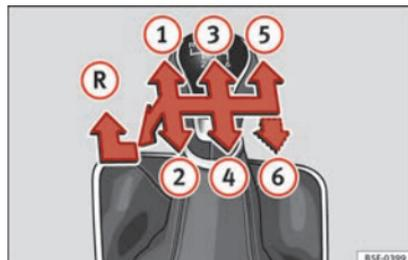

Fig. 45 Gear shift pattern of a 5 or 6-speed manual gearbox
The position of the gears is indicated on the gearbox lever »» Fig. 45.
- With the gearbox lever in neutral, push it upwards, move it to the left as far as it will go and then forwards to select reverse »» Fig. 45 .